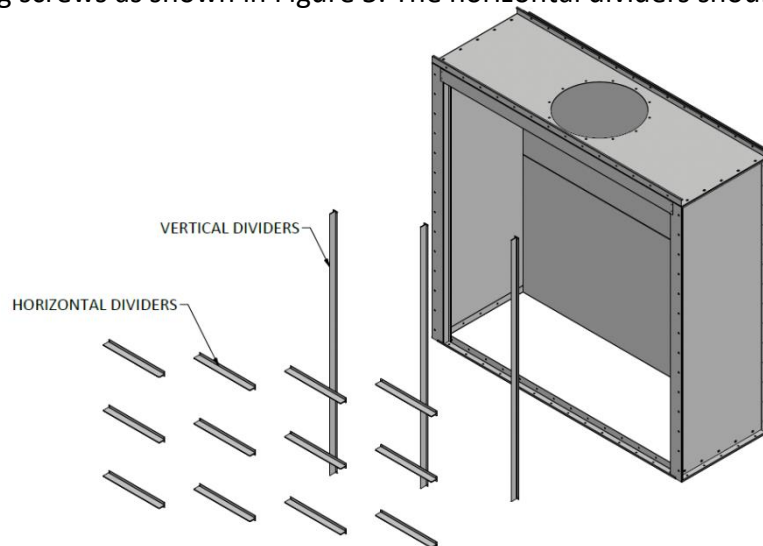

Figure 5 – Assembly of Filter Gridwork
- Fasten the vertical dividers to the floor trim and horizontal plenum panel using four #8-18 X 1/2 self-drilling screws as shown in Figure 5. The vertical dividers should be installed every 20” on center.
- Fasten the horizontal dividers to the vertical plenum panels and vertical dividers using four #8-18 X 1/2 self-drilling screws as shown in Figure 5. The horizontal dividers should be installed every 20” on center.